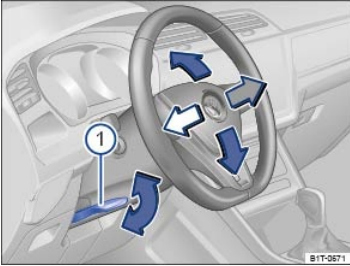

Fig. 67 Manual adjustment for the steering wheel position.
The steering wheel can be adjusted up and down (blue arrows) or forward and back (white and gray arrows) ⇒ Fig. 67.
- Push down on the lever ⇒ Fig. 67①.
- Always pull the lever ⇒ Fig. 67① firmly upward after adjusting the steering wheel so that the steering wheel does not change position suddenly while the vehicle is moving.